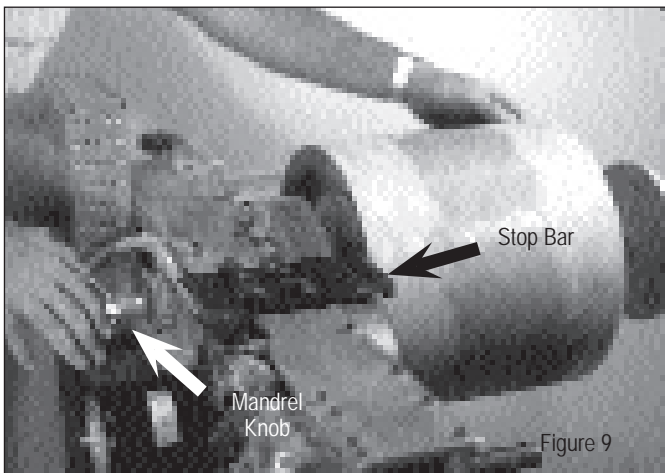

Figure 9
14. Slide a piece of pipe with a factory taper onto the tool. Wiggle the pipe as necessary to align the mandrels. Slide the pipe onto the mandrels until the pipe end contacts the stop bar (see Fig. 9), then pull back about 1/4".
15. Tighten the mandrel knob (see Fig. 9) to expand the mandrels. The pipe should contact the stop bar when the mandrels are tight. If the pipe does not contact the depth stop when mandrels are expanded, readjust the pipe until it does contact the stop bar. **DO NOT OVERTIGHTEN.** Lift slightly before expanding the mandrels.